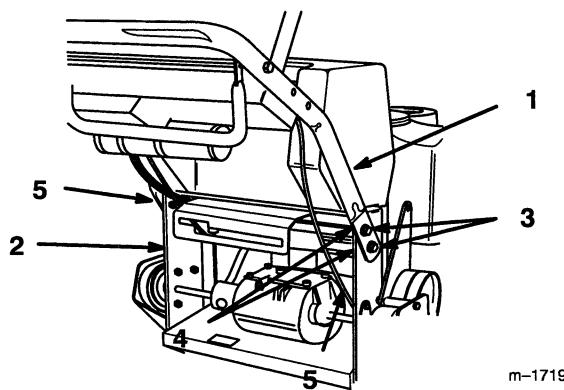

**Figure 3**
2. Secure control panel and fuel tank to rear frame with (4) 7/8 in. (22.5 mm) bolts, lock washers and washers (Fig. 3).
3. Slide hose clamp onto fuel line (Fig. 3). Push fuel line onto fuel tank fitting and secure with hose clamp (Fig. 3).